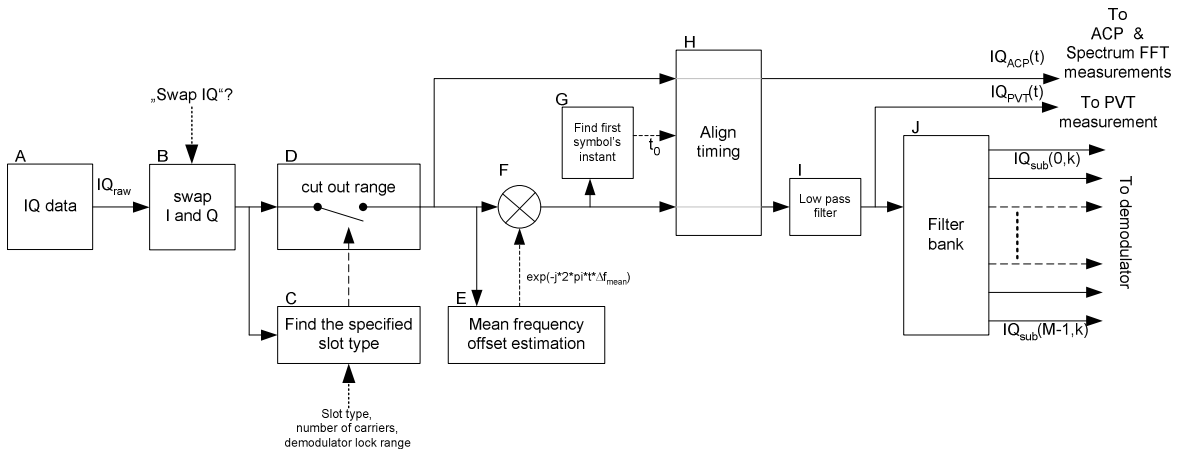
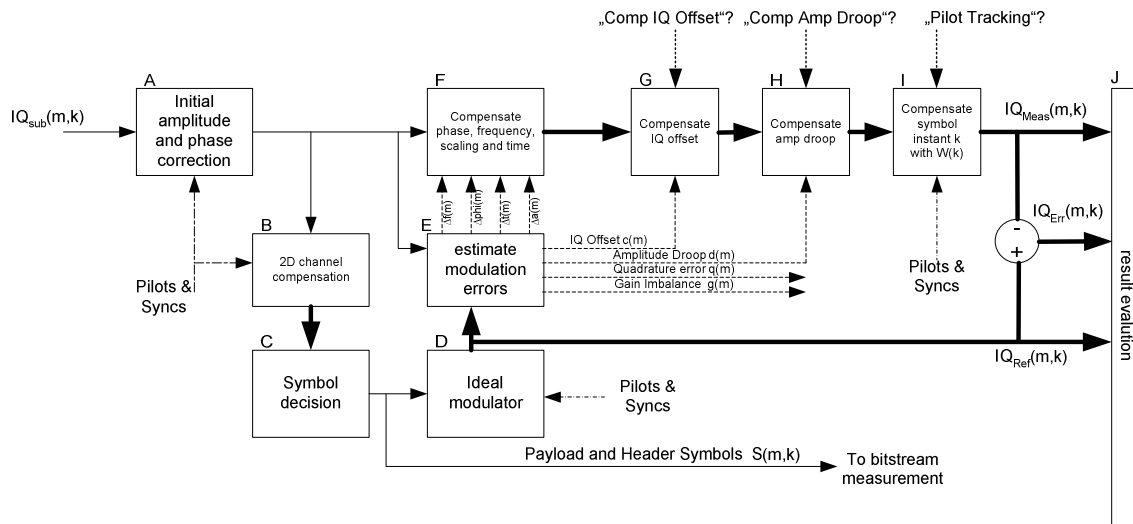
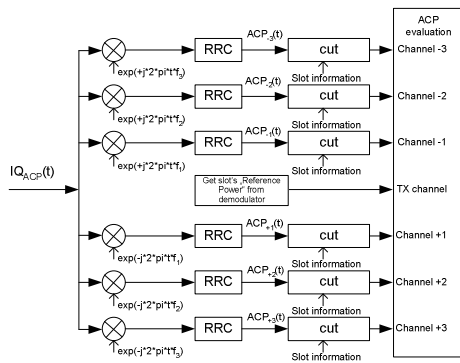
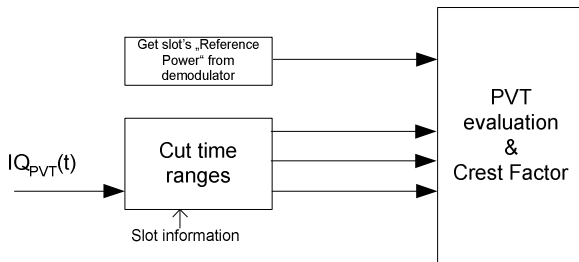

Fig. 44 Slot based signal processing overview
Fig. 45 Subcarrier based signal processing (demodulator)
Fig. 47 ACP signal processing
Fig. 48 PVT signal processing
Fig. 44 shows the signal processing that deals with the whole slot (all subcarriers together):
Fig. 45 shows that part of the application's signal processing specific for a single subcarrier. The application has  $M$  identical paths like this, one for each subcarrier. For the input signal  $IQ_{\text{Sub}}(m,k)$  please refer to Fig. 44.
Note that the pilot tracking can take care of arbitrary time-varying amplitude and phase changes that were not compensated by earlier stages. Block A and F in Fig. 45 only compensate a constant (over time) amplitude and phase error. Block H in Fig. 45 only compensates an amplitude change that is exponential over time.
- All the estimates of the slot based signal processing (please refer to Fig. 44). Not drawn in Fig. 45.
- All the estimates of the subcarrier based signal processing (please refer to Fig. 45).
is shown in Fig. 47. For the input signal  $IQ_{ACP}(t)$  please refer to Fig. 44.
Fig. 48 shows the signal processing specific to measurement "Power Versus Time". For the input signal  $IQ_{PVT}(t)$  please refer to Fig. 44.